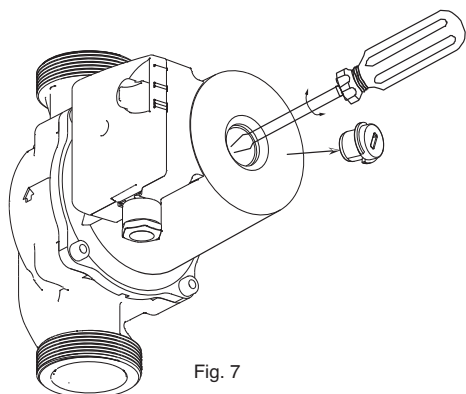

Fig. 7
- Remove the air release plug and turn the shaft with a screwdriver (fig. 7);